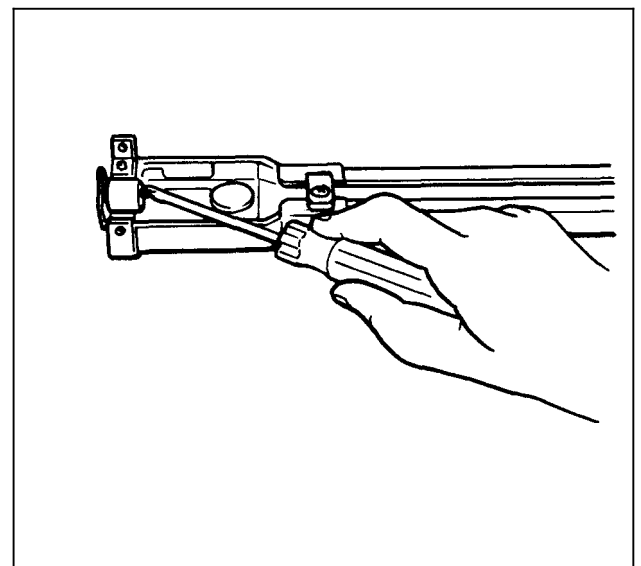

Fig. 19
6. Using a screwdriver or the handle end of the provided wrench, lift out and remove the temporary steel spacer from the motor pulley housing and discard. (Fig. 19)